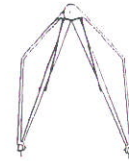

Fig. 2
- 3 • Using a special PLCC removal tool, (fig. 2), remove the SCSI controller from IC20 on the CPU module.